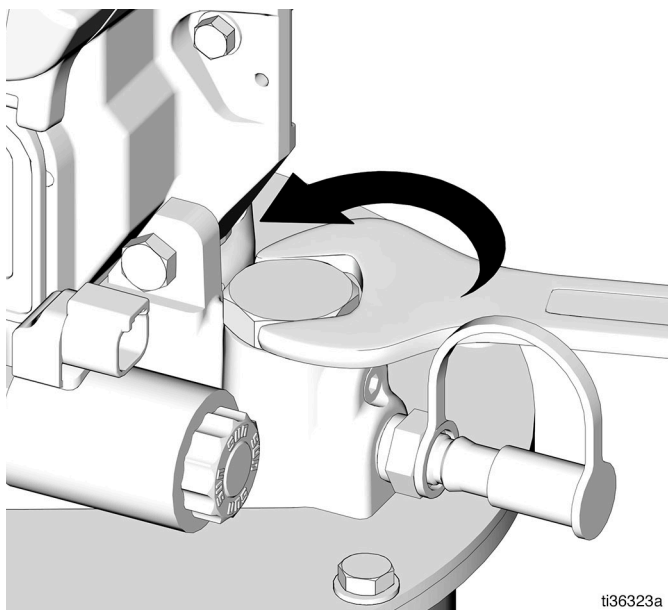
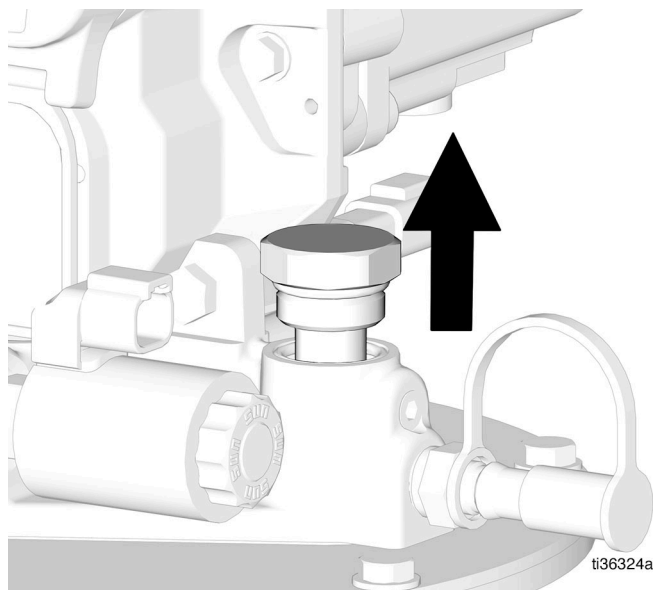

FIG. 4
FIG. 5
4. Loosen and remove the Compact Dyna-Star Auto-Fill Shut Off plug. Dispose of the plug according to local regulations (FIG. 4 and FIG. 5).